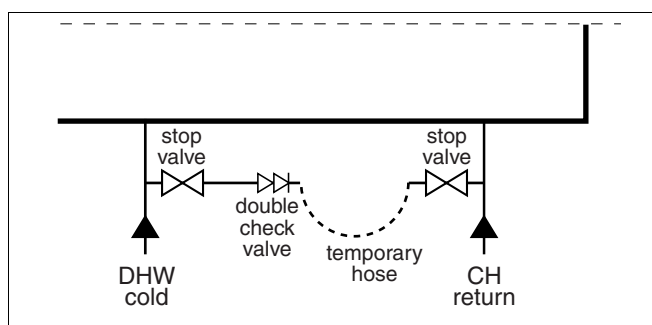

Fig. 27 Connecting temporary hose
- Connect temporary hose (fig. 27).